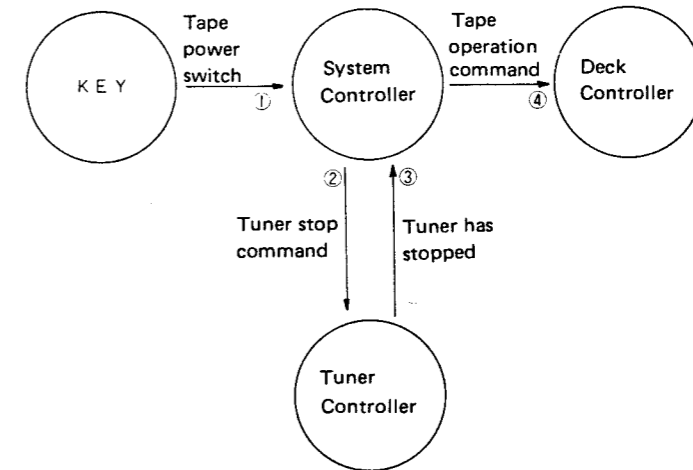

Fig. 20
a. When the tape power switch is pressed (Fig. 20)